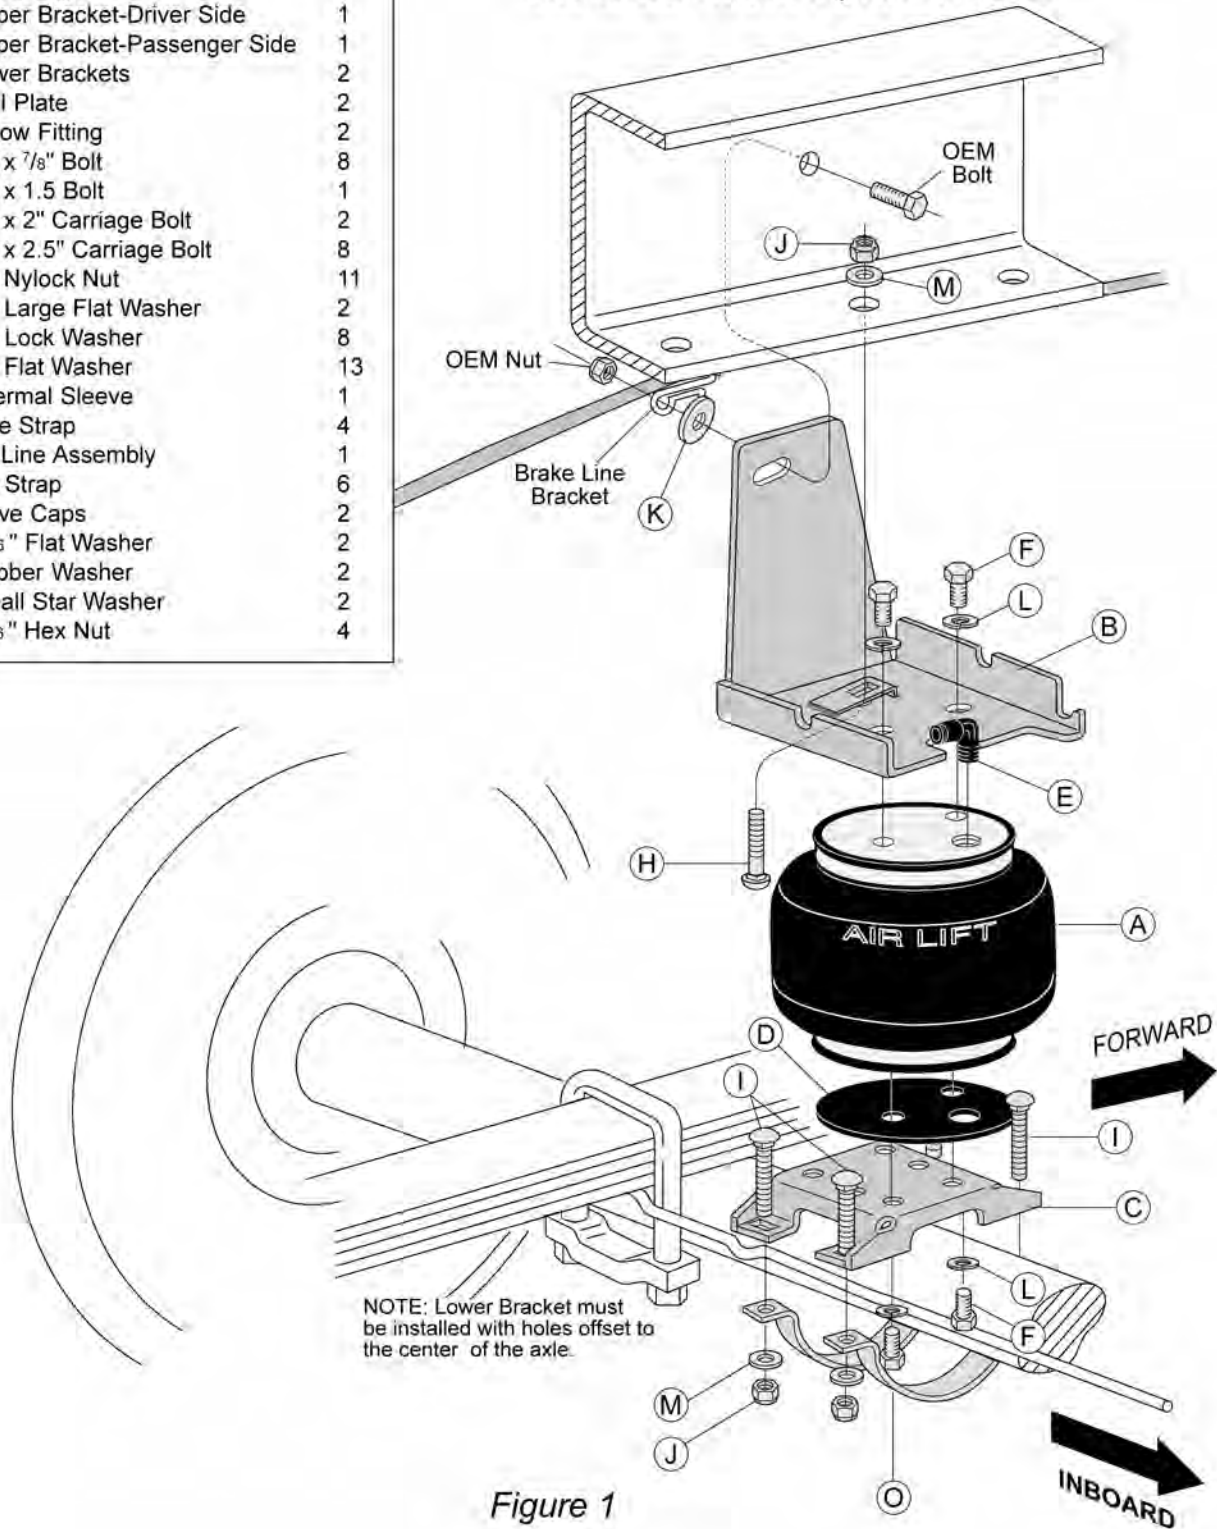
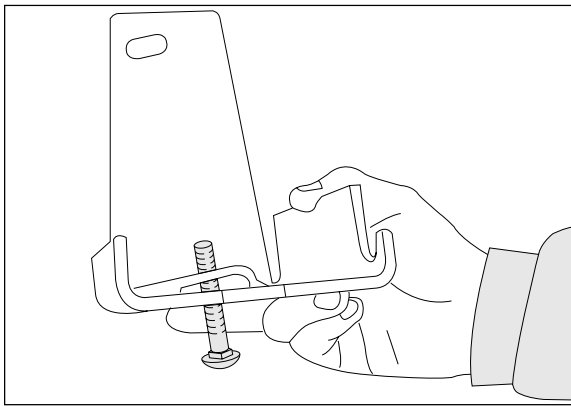

Figure 1
Figure 2
1. Install 90 degree air swivel fitting (E) to the top of the bellow. This fitting is precoated with sealant. Using an open-end wrench, tighten 1 and  $\frac{1}{2}$  turns (Figures 1 and 3).
2. Insert a carriage bolt (H) up through the driver side upper bracket (B1). Refer to Figure 2.
3. Set bracket and carriage bolt assembly on top of the bellow. Attach with two bolts (F) and lock washers (L).
4. Set backer plate (D) on the bottom of the bellow (Figure 1).
1. Set the assembly in place by inserting the carriage bolt up through the jounce bumper hole (Figure 1). The bracket fits flush against the outside of the frame.
2. Attach the axle straps (O) to the lower bracket using washers (M) and nylock nuts (J). Refer to Figure 1.